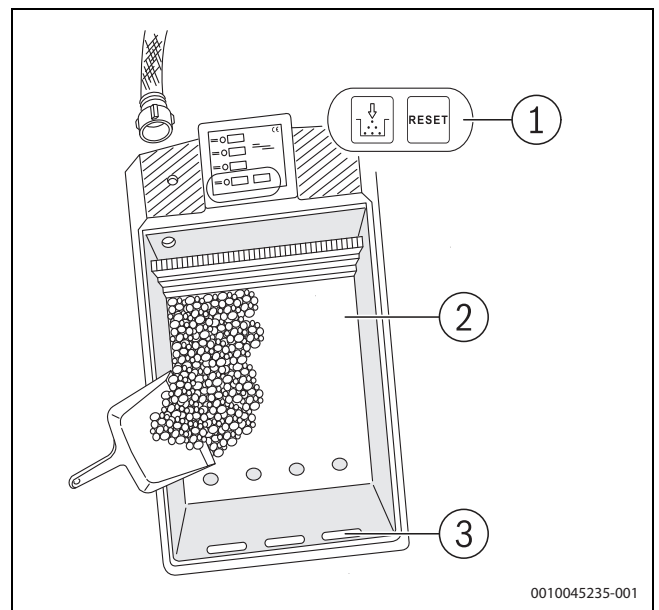

Fig. 8 Change granules
The granules required for neutralisation must be replaced at certain intervals depending on the operating mode of the floor standing boiler. The "Granule change" indicator lamp on the control unit lights up when replacement is due (→ Figure 8). On this occasion, the entire appliance should be cleaned.
- ▶ Press the reset button 1x briefly, residual water is pumped out (→ Figure 8).
Ensure that no granules enter the overflow slot (→ Figure 8, [2]).
- ▶ Cleaning the sludge chamber (→ Figure 8, [1]).
- ▶ Press the reset button for approx. 5 seconds until the “Change granules” indicator lamp has gone out (→ Figure 8).